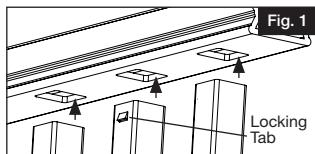

Fig. 1
- a. Assemble your rail section by inserting balusters/spindles into rails (Fig.1).